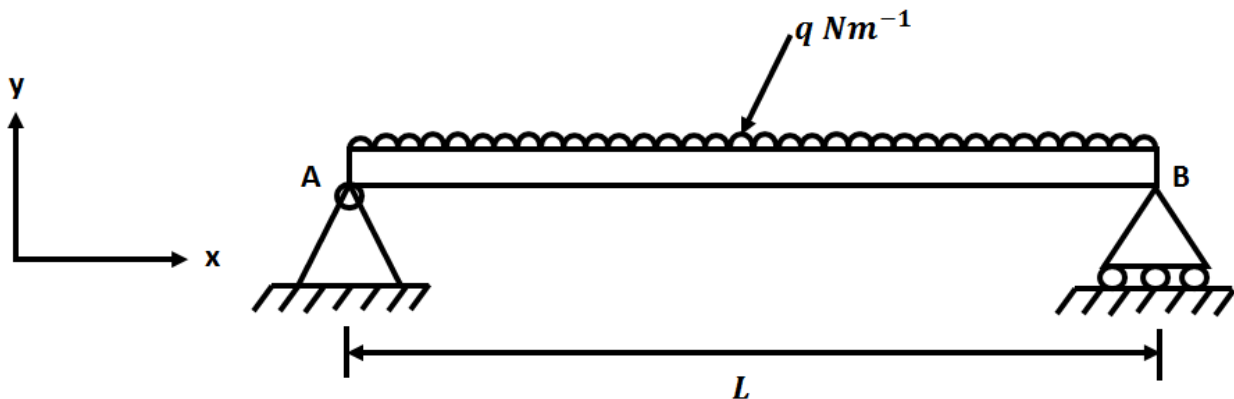

Fig. Q 2 (a)
- b. The simply supported beam shown in Fig Q 2 (a) is subjected to a uniform load of intensity q acting throughout the span of the beam. The beam has length L and constant flexural rigidity. Determine: